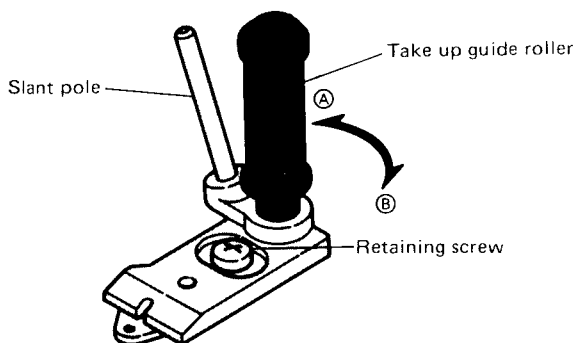

Fig. 4-17
- 1) Loosen the retaining screw shown in Fig. 4-17 slightly, it should be noted that excessively loosening often causes the guide roller to stick, preventing guide roller rotation during tape run.